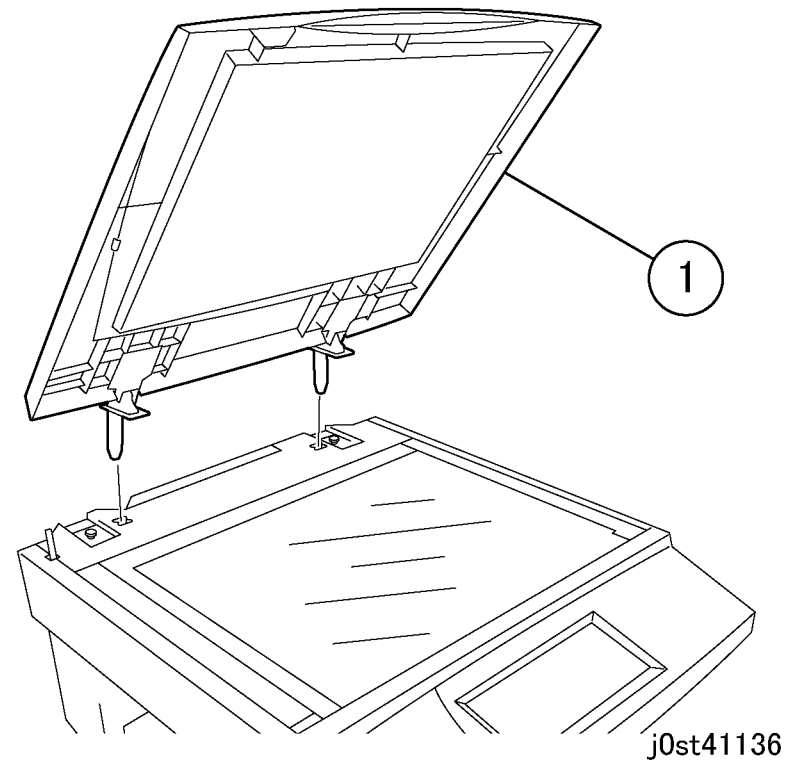

Figure 1 Removing the Platen Cover (j0st41136)
2. (Platen models) Remove the Platen Cover. (Figure 1)